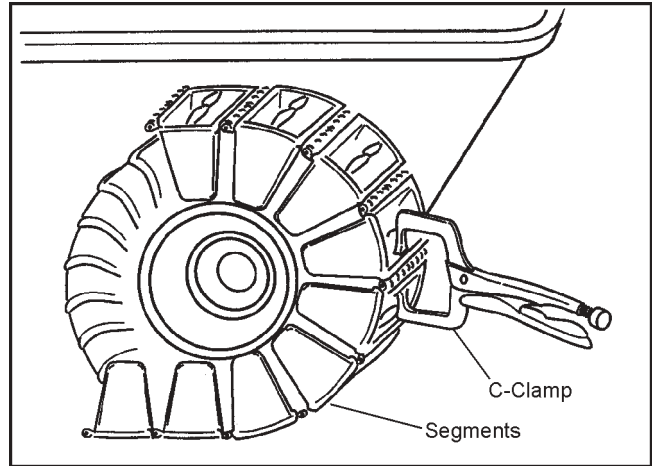

Figure 11-6. Track Assembly
11. Join the two ends of the track and secure them in place with C-clamps as shown in Fig. 11-6, so that the 1/4" holes are lined up.
1. Use C-clamp to take tension off of track pin, as in Fig.11-6.